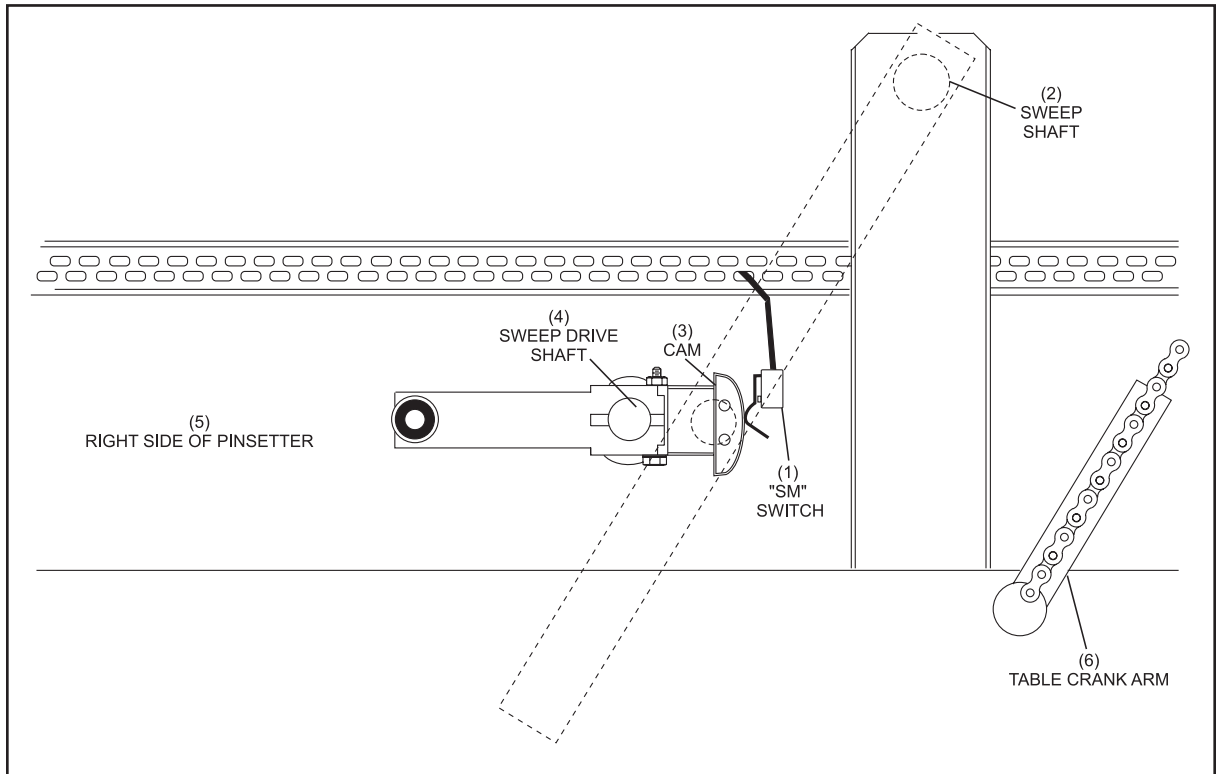

Figure 1-26. SM Switch Closed - Sweep Forward
Once the sweep is down in the guarding position, the sweep motor turns the sweep shaft clockwise. This rotates the sweep crank arms to drive the sweep shaft rearward then forward. Six guide rollers mounted on the sweep wagon, ensure that the wagon rolls smoothly and squarely in its sweep path. When the cam on the right side crank arm activates the Sweep Motor (SM) switch, the sweep motor shuts off and its internal brake engages to prevent the motor from coasting. This allows the sweep to be stopped exactly at the fully forward position. Refer to *Figure 1-26*.